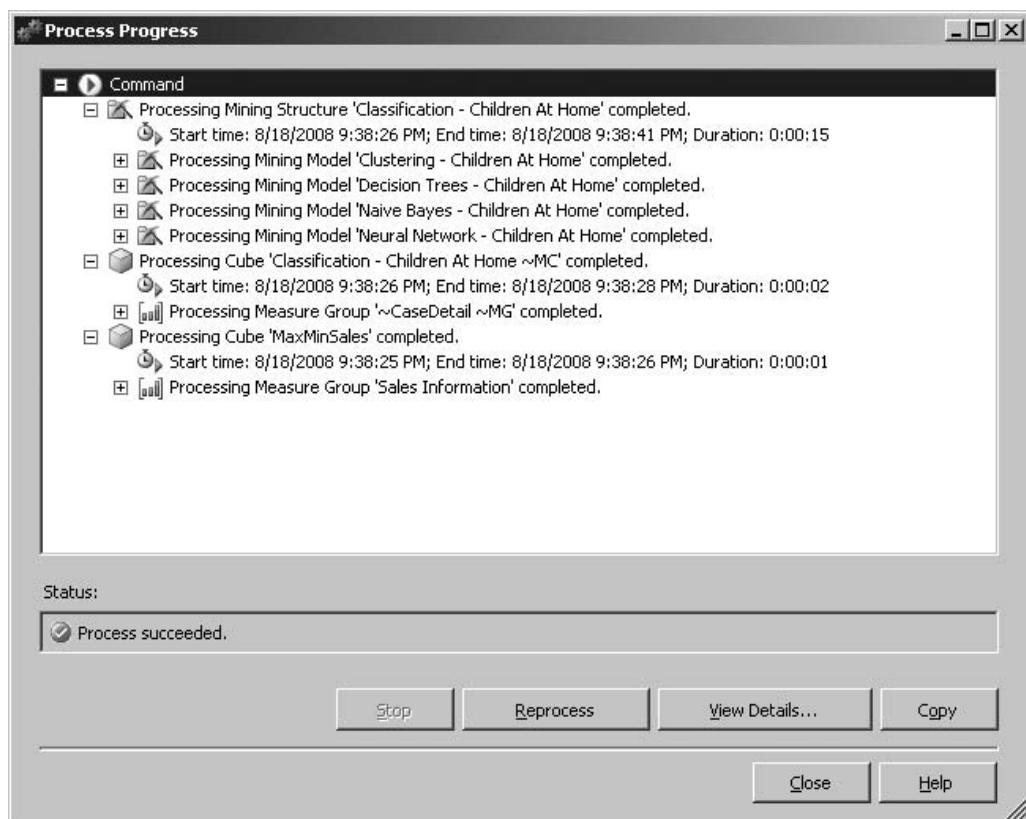

Figure 14-17 The Process Progress dialog box
60. When the models have all been trained and the process has been completed successfully, the Process Progress dialog box appears as shown in Figure 14-17. Click Close to exit the Process Progress dialog box.